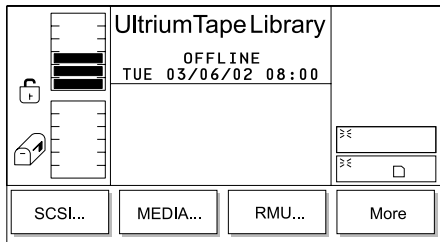

Figure 152. Library Submenu
3. Press the button below the **Library** softkey. The Library Submenu displays (see Figure 152).